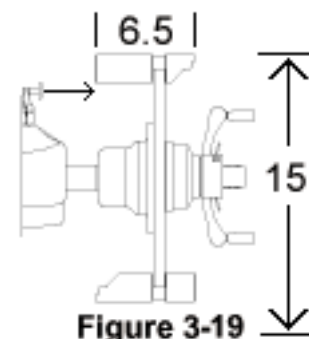

Figure 3-19
1. Enter C83 using the <±> keys and press the <F> key. Mount the Pruefrotor on the balancer shaft and lower the wheel guard to perform a measuring run. (Figure 3-19)